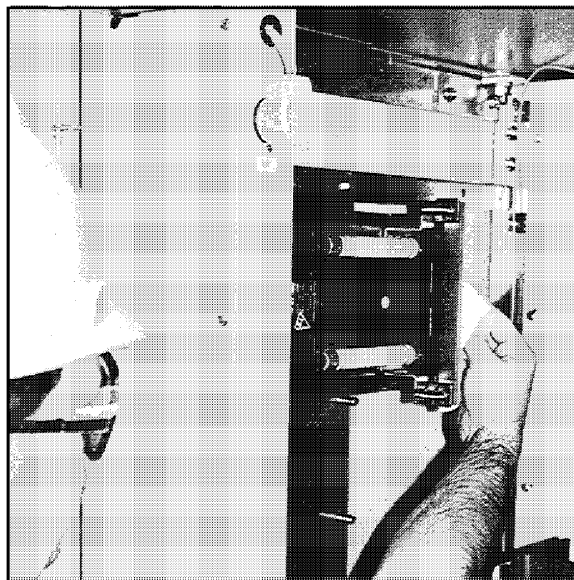

Fig. 60 Inspect Control Power Transformer
- ☐ Wipe off the surface of the control power transformer. (Fig. 60)